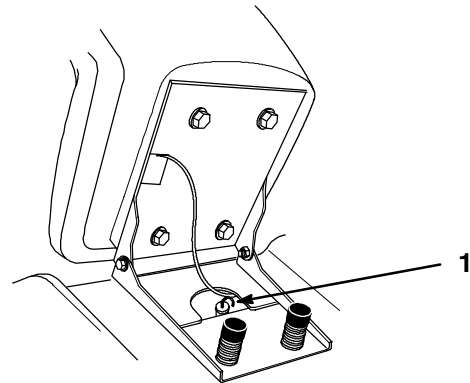

Figure 43
4. Clean around the transmission dipstick (Fig. 43) so dirt cannot fall into the filler hole and damage the transaxle.
5. Pull out the transmission dipstick and wipe the metal end clean (Fig. 43).
11. Slowly pour the specified refill capacity of oil into the filler tube (Fig. 43).